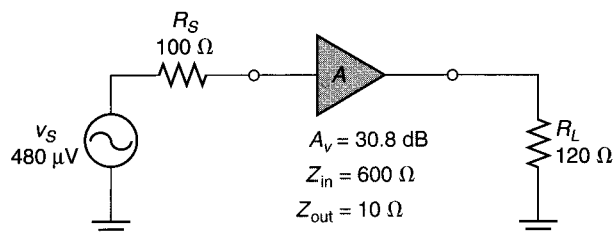

FIGURE 8.29
36. Refer to the circuit in Figure 8.29. Calculate the *effective* dB voltage gain of the circuit and the output power in dBm.